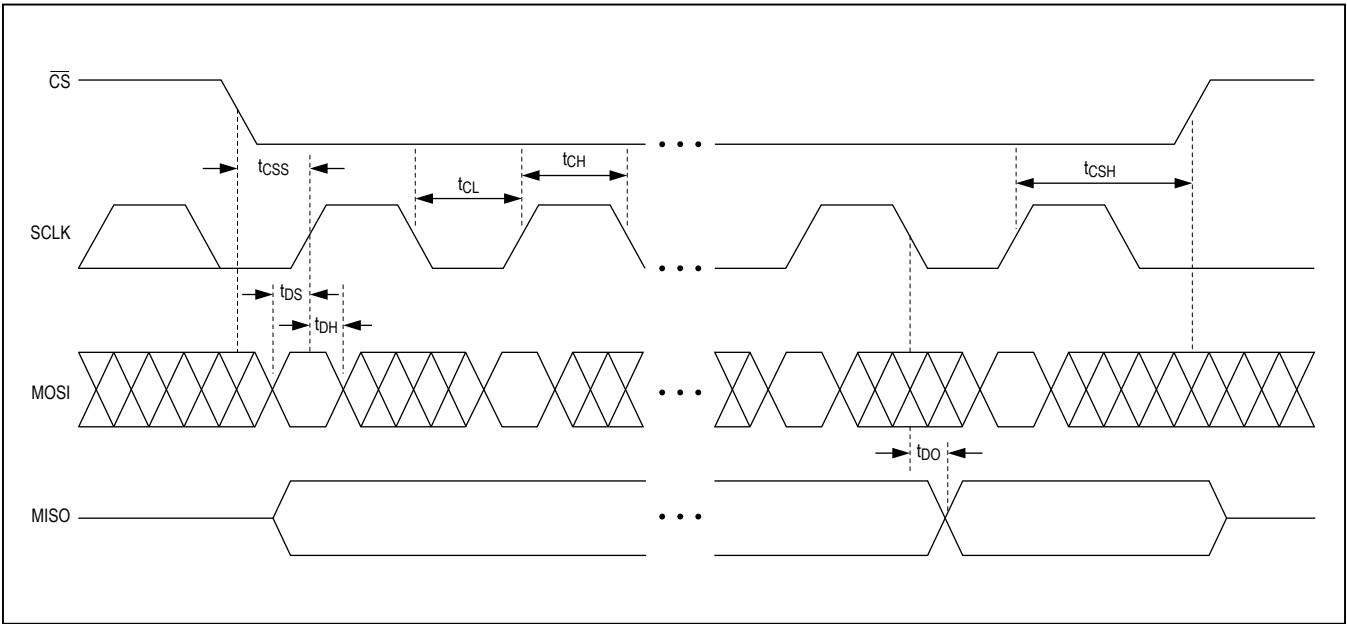

Figure 12. SPI Timing Details
In SPI mode, the device operates a shift register designed to work with common serial interfaces. The bits are shifted through so that a large serial chain can be made to minimize pins needed for a system with multiple devices. (See Figure 12.) This shift register is also designed to be compatible with common microcontroller SPI-type interfaces. The switches in the MAX14661 are all transitioned simultaneously. To update the switches in SPI mode, the user must shift in a bit with the desired state of each switch according to the data format listed in Table 4. The switches are updated at the rising edge of \overline{CS} with the last 32 bits of data shifted in **only if the number of bits clocked in is greater than or equal to the number of switches (32)**. The DOUT pin is the serial output of the shift register. This outputs the data loaded into DIN, delayed by 32 clocks, and is intended for creating a serial daisy chain to minimize the number select lines required
Note that the data in the shift register may not be the same as the state of the switches. The DOUT pin is intended for daisy chain applications and not for switch readback. Note for V_{CC} less than 2.7V, the DOUT propagation delay can limit the maximum SPI operating frequency. See Figures 12 and 13 for the SPI timing diagrams. The voltage level driven out by the DOUT buffer is set by the voltage applied to SPI/I^2C . This allows the voltage to be independent from the supply voltage. While we expect the voltage at SPI/I^2C to be less than or equal to V_{CC} in most applications, it can be higher than V_{CC} as long as it does not exceed V_{CC} before V_{CC} has reached at least 1.8V.